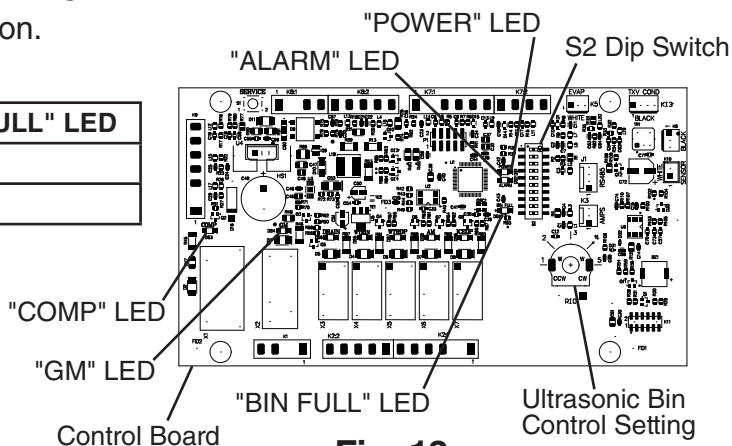

Fig. 13
- 5) Confirm the control board orange "BIN FULL" LED is off (bin empty). "POWER" LED is on. See Fig. 13.
- 7) Make sure the "GM" LED is on. See Fig. 13. There is a delay of at least 30 sec. before the "GM" LED turns on after power-up. After "GM" LED turns on, press the "Service" button on the control board to bypass the 5-minute compressor delay. **WARNING! Risk of electric shock. Care should be taken not to touch live terminals.** Confirm the "COMP" LED turns on.